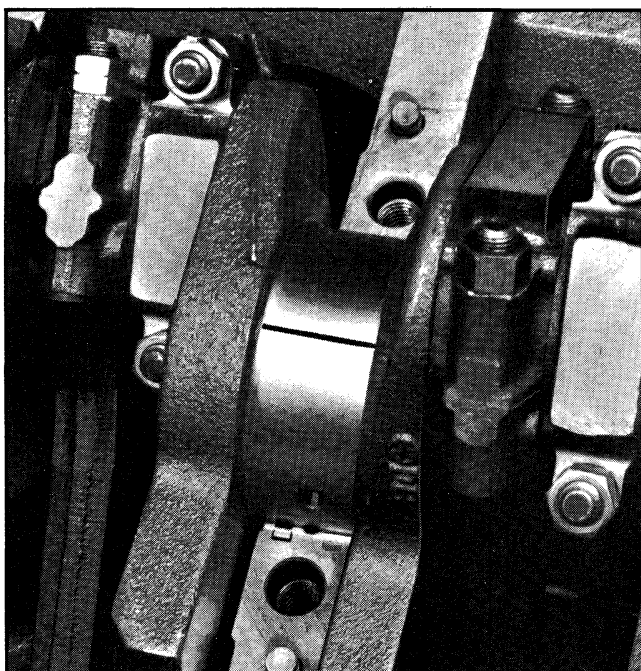

Fig. 6-134 Plastigage on Journal
3. Place a piece of Plastigage the length of the bearing (parallel to the crankshaft) on the journal or bearing surface (Fig. 6-134). Install the cap and tighten cap bolts to proper torque.